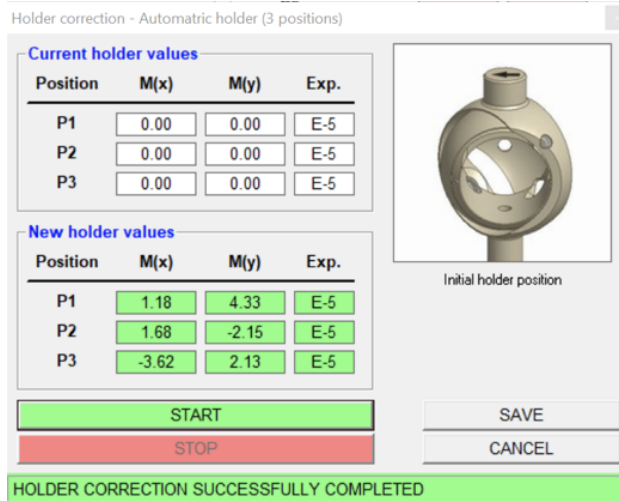

Figure 6: Holder Correction dialogue box after successful measurement.
1. Click **Execute > Holder Correction**. The Holder Correction dialog box will open (Figure 6).